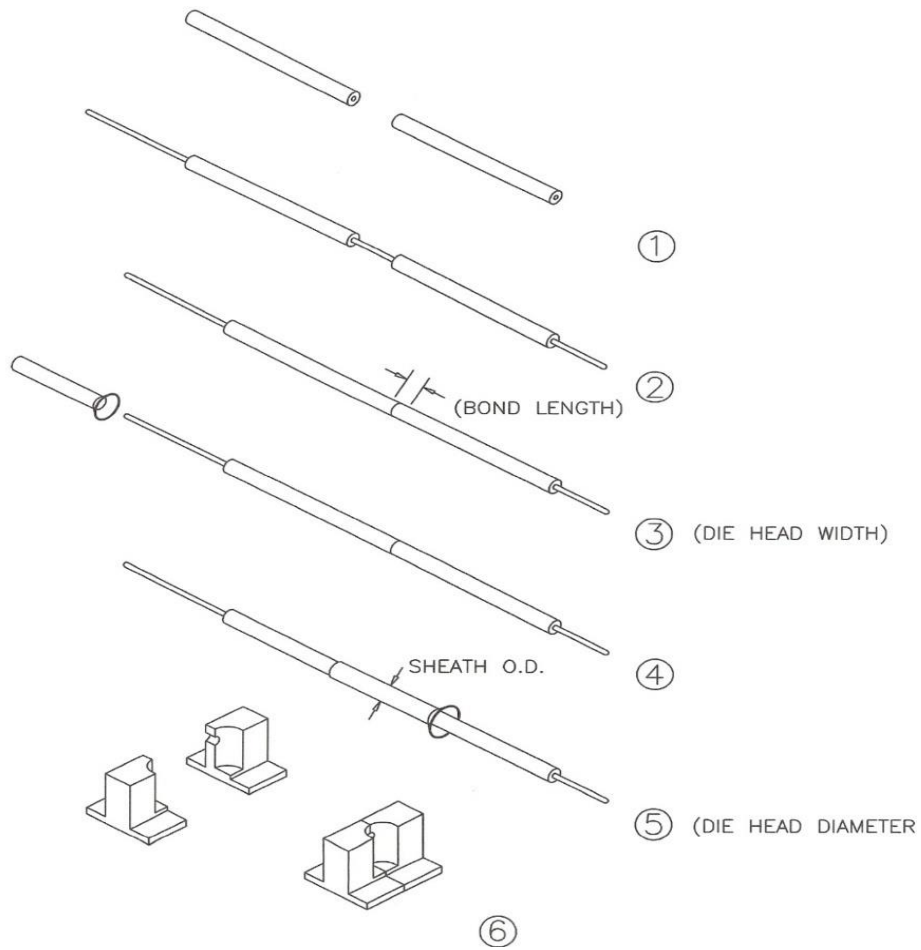

Figure A-1: Sizing Thermal Die Head
- 3.1 Figure A-1, Die Head Sizing
- 4.1 Assemble components to be bonded over mandrel(s). Figure A-1, 1-2.
- 4.2 Measure bond length, tubing overlap, and balloon sleeve length. Figure A-1, 1-3.
- 4.3 Position protective sleeves (fitted PTFE, PET heat shrink, or Polyolefin heat shrink) over bond location. Figure A-1, 1-4.
- 4.5 Measure O.D. of protective sleeve at bond location. Figure A-1, 1-5.